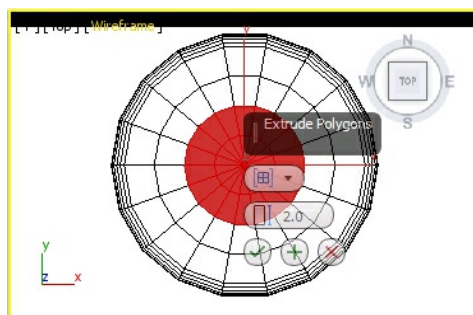

Figure 8-145 The Extrude Polygons caddy control
12. In the **Edit Polygons** rollout, choose the **Settings** button on the right of the **Extrude** button; the **Extrude Polygons** caddy control is displayed in the viewport. Set the value **2.0** in the **Height** spinner, refer to Figure 8-145, and choose the **OK** button twice to close this caddy control.